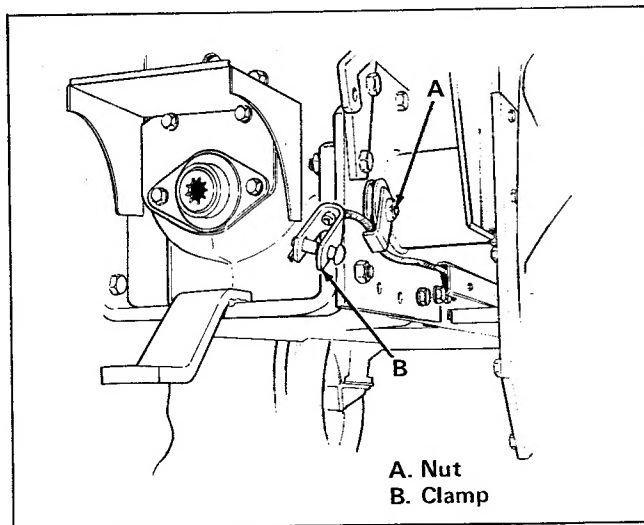

Figure 41. Install New Cable
2. Loosen nut (item A, figure 41), slip clamp to side allowing lift cable to be removed. Install new lift cable with largest clamp (item B) to rear of tractor.